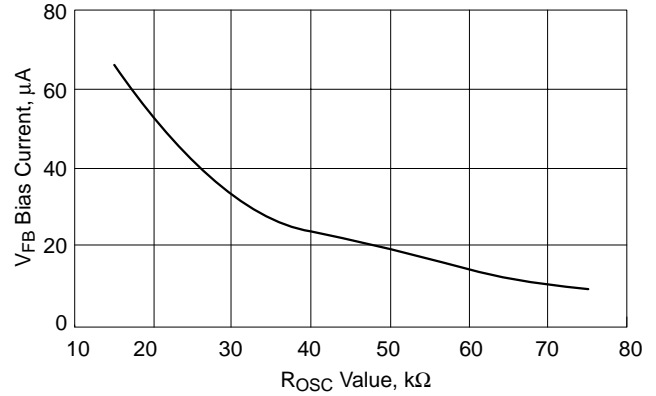

Figure 4. V_{FB} Bias Current vs. R_{osc} Value
2. The V_{FB} Bias Current changes with the value of R_{OSC} per Figure 4.
To set the no-load positioning, a resistor is placed between the output voltage and V_{FB} pin. The V_{FB} bias current will develop a voltage across the resistor to decrease the output voltage. The V_{FB} bias current is dependent on the value of R_{OSC} . See Figure 4 on the datasheet.